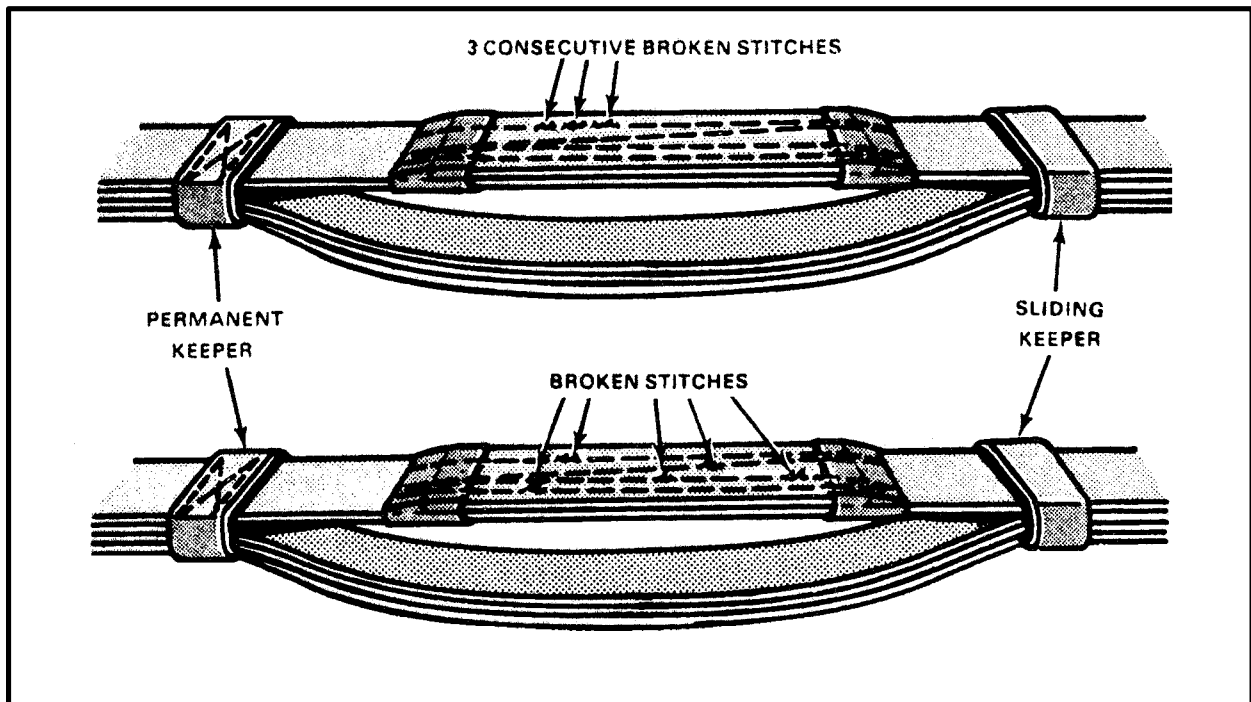

Figure 6-39. Sling with Broken or Loose Stitches
**e. Inspection, Maintenance, and Storage.** The two ends of each loop of nylon flat-web slings are sewn together. Figure 6-39 illustrates the sewn splice and how to inspect for broken or loose stitches. Use the requirements and criterion of the 15,000-pound multileg sling set when marking, inspecting, cleaning, and storing the aerial delivery slings and multiloop lines.